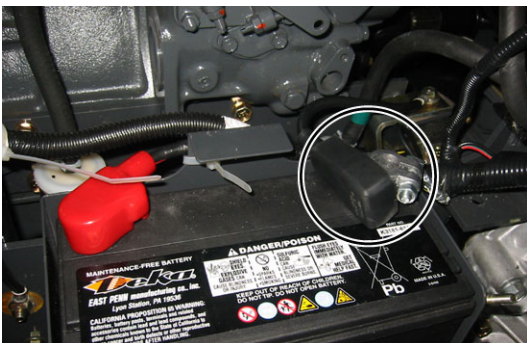

Fig. 11
10. Reconnect the negative battery cable to the battery and reinstall the battery cover. Fig. 11